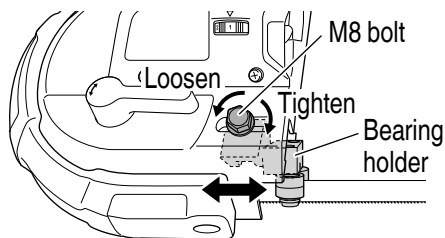

Fig. 10
3. Adjusting the positions of bearing holders (Fig. 10)